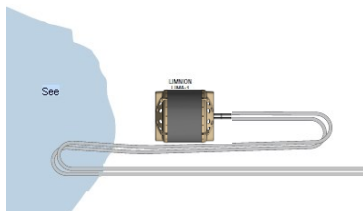

Fig. 7
- Lay the pipeline, which is connected to the water heat exchanger, on the shore and carry it along (Fig. 7).